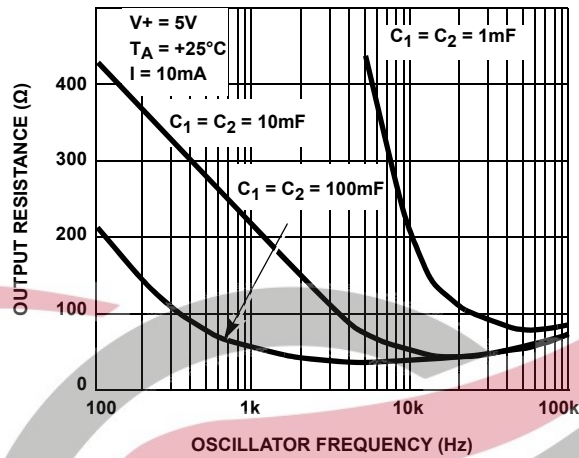

FIGURE 11. OUTPUT SOURCE RESISTANCE AS A FUNCTION OF OSCILLATOR FREQUENCY
0.1µF, can be used in conjunction with the Boost Pin to achieve similar output currents compared to the device free running with $C_1 = C_2 = 10\mu\text{F}$ or $100\mu\text{F}$. (see Figure 11).